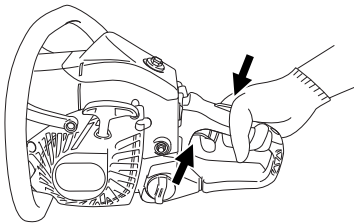
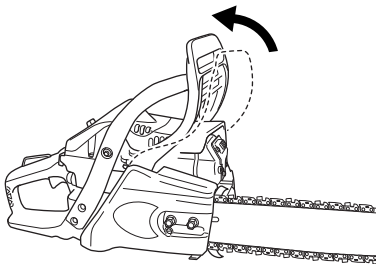

Fig. 14
Fig. 15
- As soon as engine start, pull throttle lever full once and release immediately. (Fig. 14) Then half-throttle is disengaged. Make sure chain brake is disengaged. (Fig. 15) Allow the engine about 2-3 minutes to warm up before subjecting it to any load. Do not run the engine at high speed without the load to shorten the longevity of the engine.